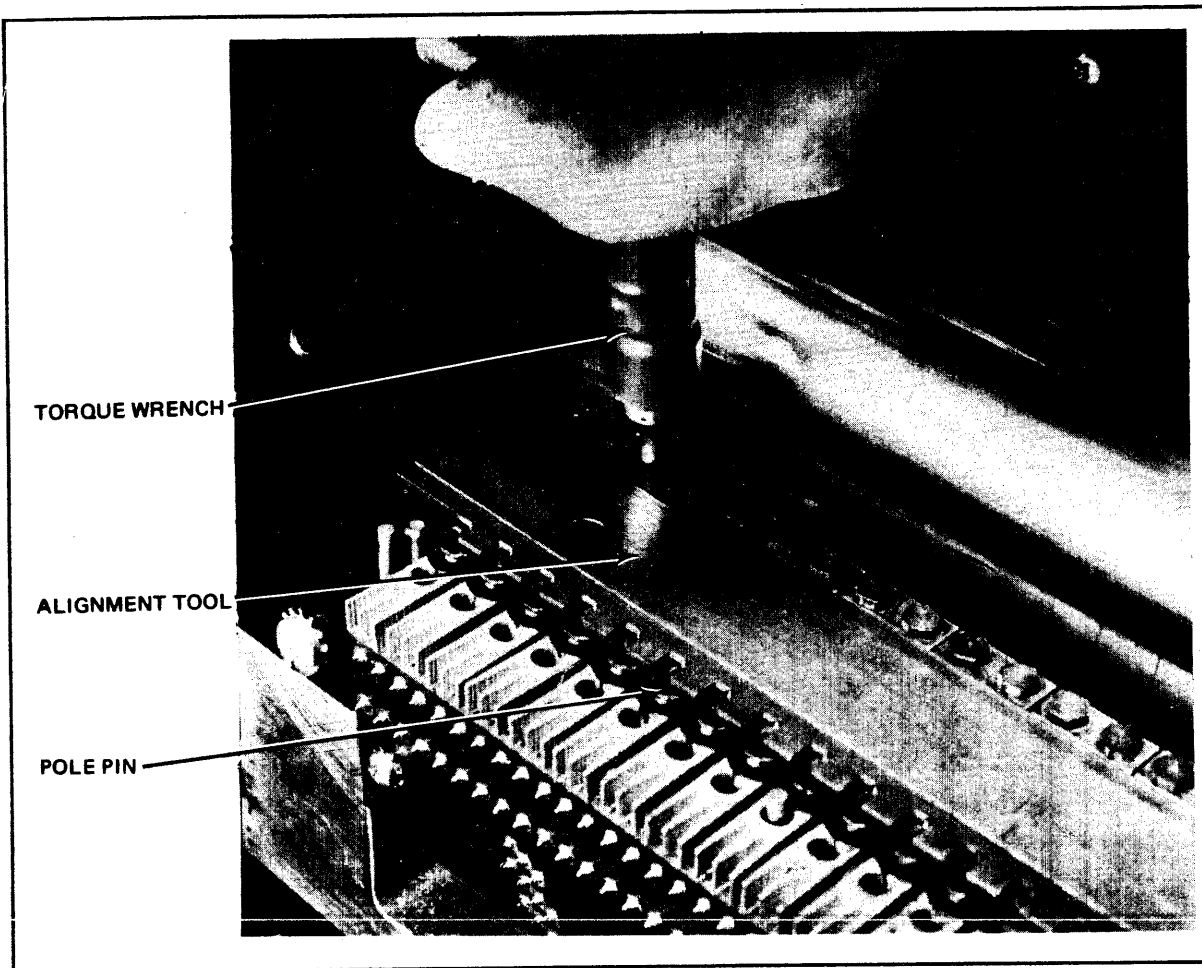
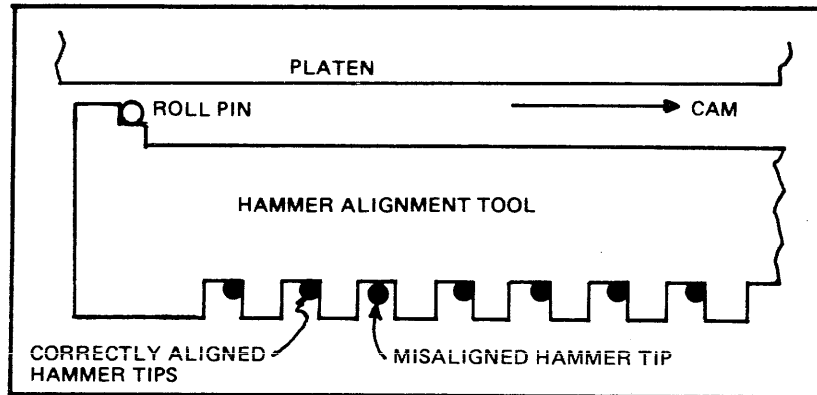

Figure 51 Using Notched Hammer Alignment Tool
Figure 52 Correct Hammer Tip Alignment
h. If the notched hammer alignment tool is used (figure 51), fit the tool over hammer springs with the wide side down and aligned with hammer tips on both sides of the hammer spring to be adjusted (figure 52). Each hammer tip should rest in the corner of its respective notch as illustrated. Align tip of the hammer spring at the correct corner of its respective notch.